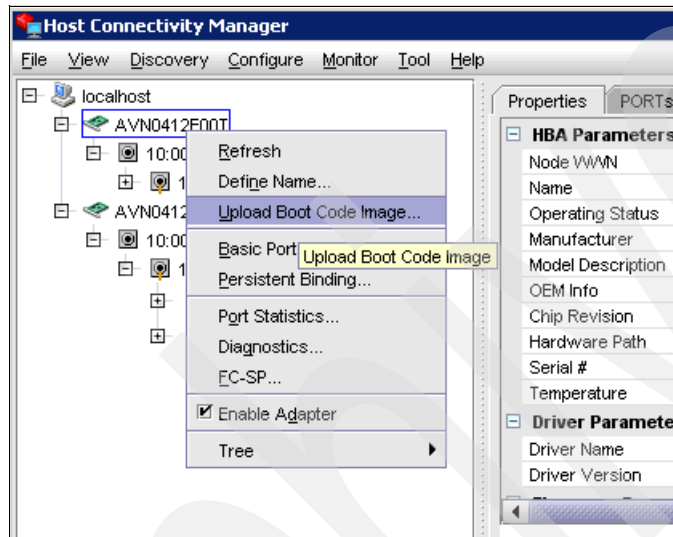

Figure 7-73 HCM Update HBA firmware
- ▶ Perform HBA firmware update (also known as Boot Code Image) (Figure 7-73)